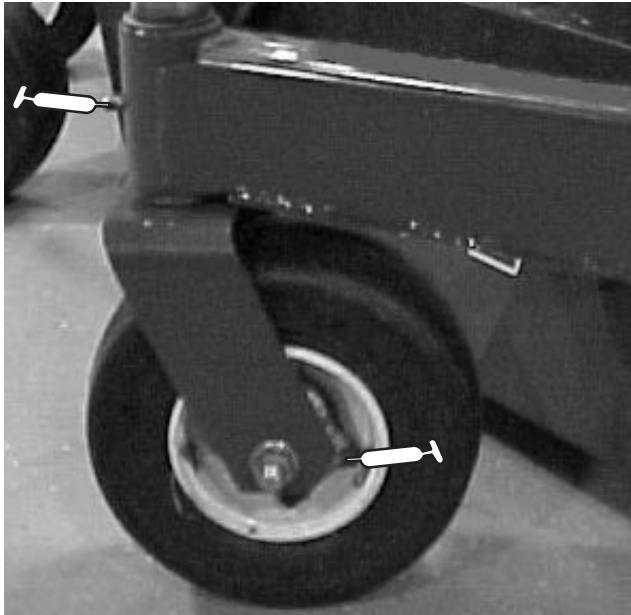
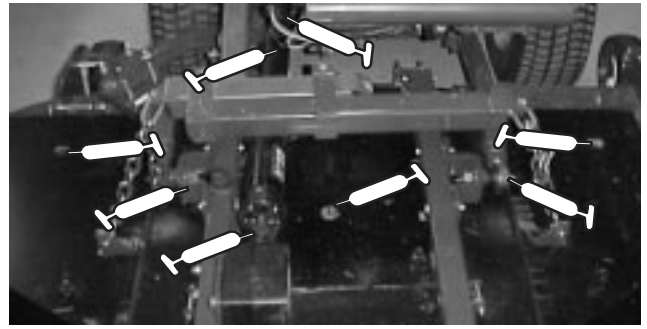
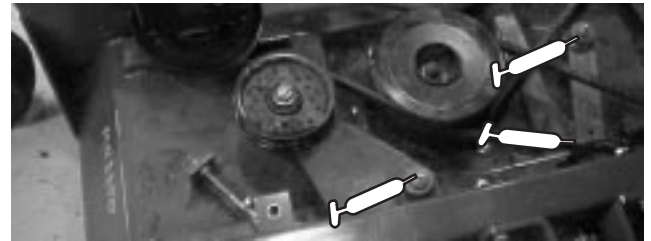
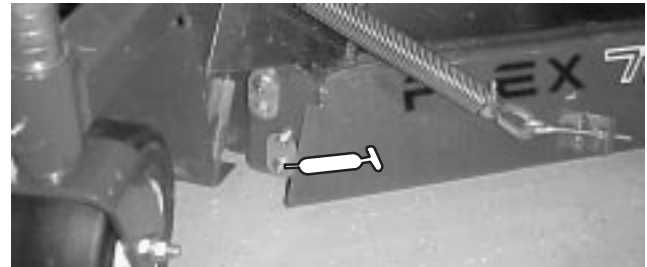

Figure 26
Figure 28
Figure 29
Figure 30
1. The cutting unit has bearings and bushings that must be lubricated, and these lubrication points are: front castor spindle bushings (2) (Fig. 26); front castor wheel bearings (4) (Fig. 26); rear castor wheel bearings (2) (Fig. 28); blade spindle bearings (3) (Fig. 28); right and left push arm ball joints (Fig. 28); drive shaft (3) (Fig. 28) idler arm pivots (3) (Fig. 29); and deck pivot pins (4) (Fig. 30)